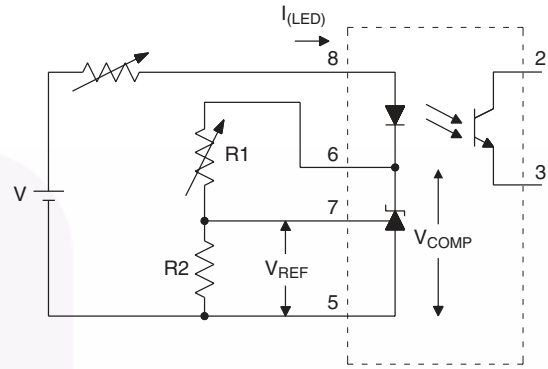

Figure 2.  $\Delta V_{REF}/\Delta V_{COMP}$  Test Circuit
- The dynamic impedance is defined as |ZOUT| = ΔVCOMP/ΔILED. When the device is operating with two external resistors (see Figure 2), the total dynamic impedance of the circuit is given by: